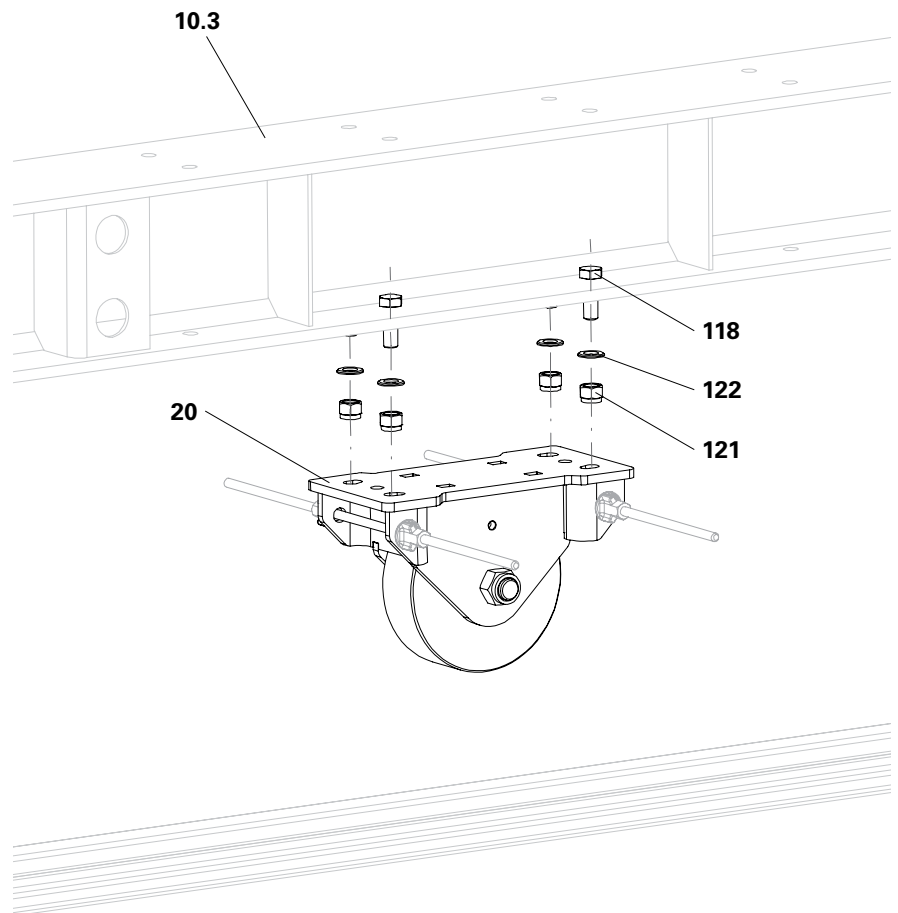

Fig. B4.11
1. Position the Heavy-Duty Wheel (20) on the assembly position.
2. Fix the Heavy-Duty Wheel on the Base Beam with bolts M24x80 (118), washers M24 (122) and self-securing nuts M24 (121).
- (Fig. B4.11)